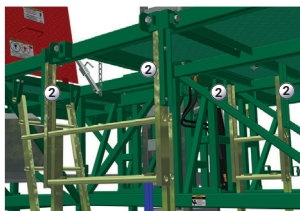

fig. 1.28
- 3- Remove the bolt assemblies holding the four vertical supports to the frame of the motorized unit (see "2" in fig. 1.28). Store the bolt assemblies properly for later use.